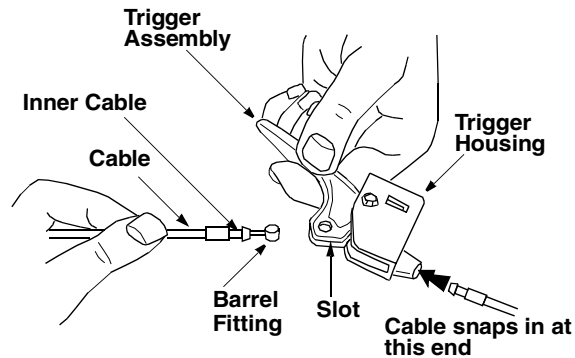

Figure 11
- Place the cable barrel fitting into the hole in the trigger. You can find the triggers and associated hardware in group H of the hardware pack. See Figure 11 .
- Pull on the cable and rotate it around the bottom of the trigger, with the inner cable in the slot, until the cable end can be pushed into the trigger housing and snapped tight. See Figure 11 .